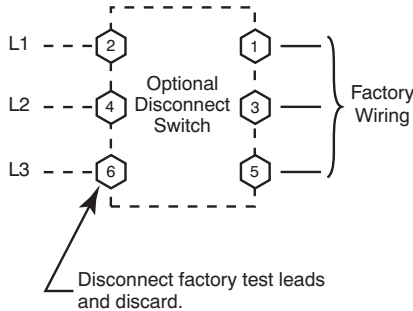

Fig. 24 - Power Wiring Connections
If equipped with optional Powered Convenience Outlet: The power source leads to the convenience outlet's transformer primary are not factory connected. Installer must connect these leads according to required operation of the convenience outlet. If an always-energized convenience outlet operation is desired, connect the source leads to the line side of the unit-mounted disconnect. (Check with local codes to ensure this method is acceptable in your area.) If a de-energize via unit disconnect switch operation of the convenience outlet is desired, connect the source leads to the load side of the unit disconnect. On a unit without a unit-mounted disconnect, connect the source leads to compressor contactor C and indoor fan contactor IFC pressure lugs with unit field power leads (see Fig. 24).
The factory-installed option non-fused disconnect (NFD) switch is located in a weatherproof enclosure located under the main control box. The manual switch handle and shaft are shipped in the disconnect enclosure. Assemble the shaft and handle to the switch at this point. Discard the factory test leads (see Fig. 24).
All field wiring must comply with NEC and all local codes. Size wire based on MCA (Minimum Circuit Amps) on the unit informative plate. See Fig. 24 for power wiring connections to the unit power terminal block and equipment ground. Maximum wire size is #4 ga AWG per pole.
2. Install power lines to terminal connections as shown in Fig. 24.